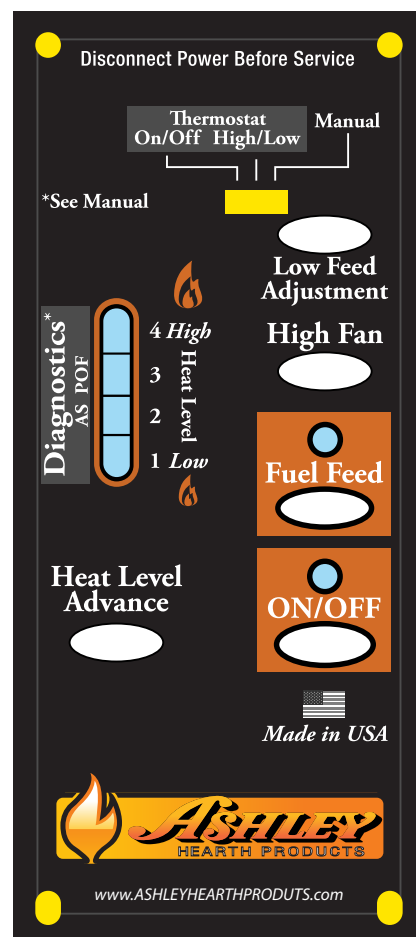

FIGURE 12
PANEL CONTROLS (SEE FIGURE 12)
- The green light located above the On/Off button (in the On/Off box) will flash during the ignition start-up period. (See figure 12)
- While the stove's auger system is feeding pellets the amber light (in the "Fuel Feed" box) will be on. (See figure 12)